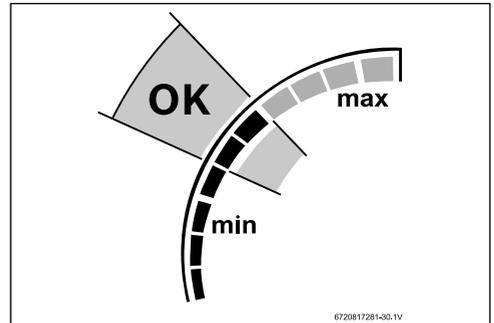

Fig. 43 Power bar middle point
- ▶ Verify if power bar level is at middle point, see fig. 43.
- ▶ Verify if power by level is at middle point, see fig. 43.